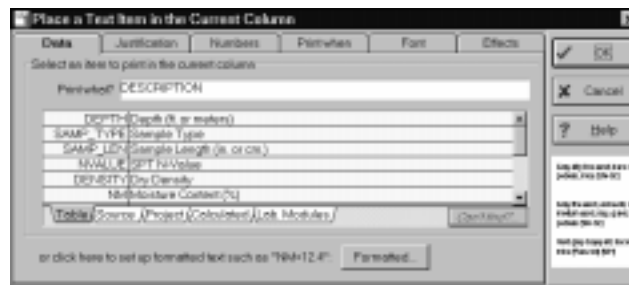

Figure 4.13 -- Column Text Dialog
3. After selecting the appropriate table column, choose Add > Add User Entered Data, Equations, etc.: This displays the dialog shown in Figure 4.13.